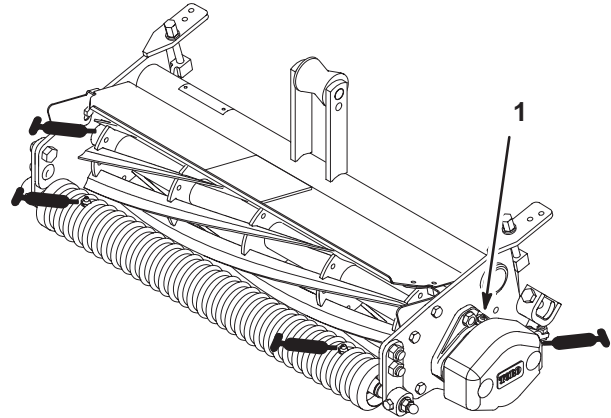

Figure 6
- Reel bearings (2) (Fig. 6)
- Front and rear rollers (2 ea.) (Fig. 6)
2. Grease the reel bearings (Fig. 6) until grease comes out of the pressure relief.
3. Grease the front and rear roller bearings (Fig. 6) until grease begins to show around the seal lips.